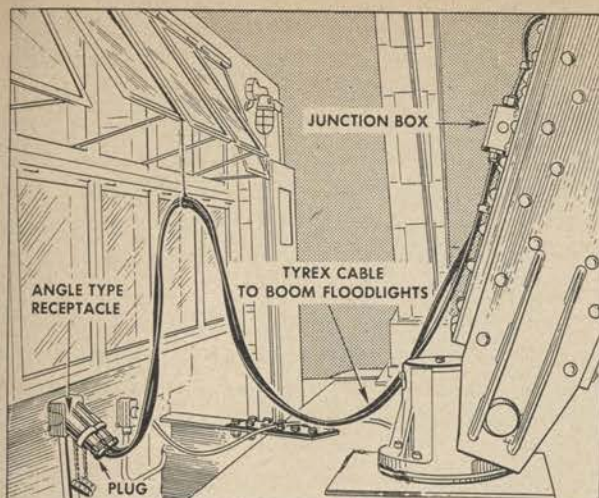

Figure 50. Cable connection to boom floodlights.
(9) *Boom floodlights.* Connect the two boom floodlight cables from the main generator control panel to the junction box on forward section, port side. The forward section of the deck house is provided with two angle type receptacles. A 2-wire 3-pole plug fits into the angle type receptacle and is provided with a length of cable which is looped on a bracket on the forward deck house section. Connect the other end of this cable to the junction box on the boom in accordance with the tag marks on the cable leads. (See fig. 50.)